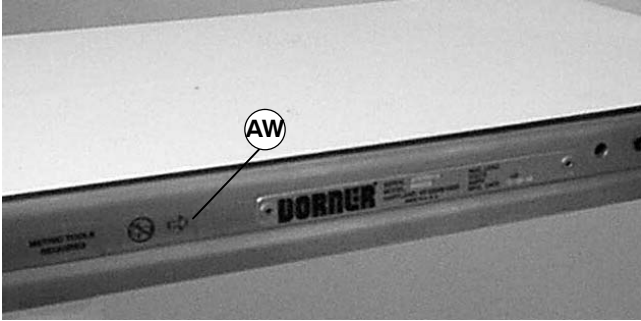
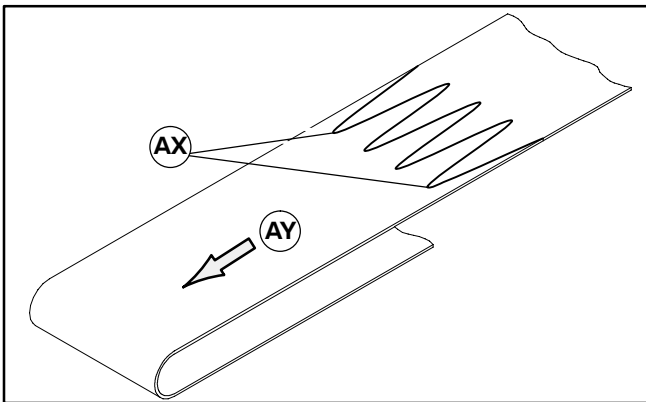

Figure 27
Figure 28
IMPORTANT: On a flat belt conveyor, the wiper is installed on discharge end. Belt travel direction is identified by an arrow decal on the side of the conveyor (AW of Figure 27). With a reversing gearmotor, a second bottom wiper must be installed on opposite end.
1. Orient the conveyor belt so that the splice leading fingers (AX of Figure 28) point in the direction of belt travel (AY) as identified by the label (AW of Figure 27).
1. Orient conveyor belt so that the splice leading fingers (AX of Figure 28) point in the direction of belt travel (AY) as identified by the label (AW of Figure 27).